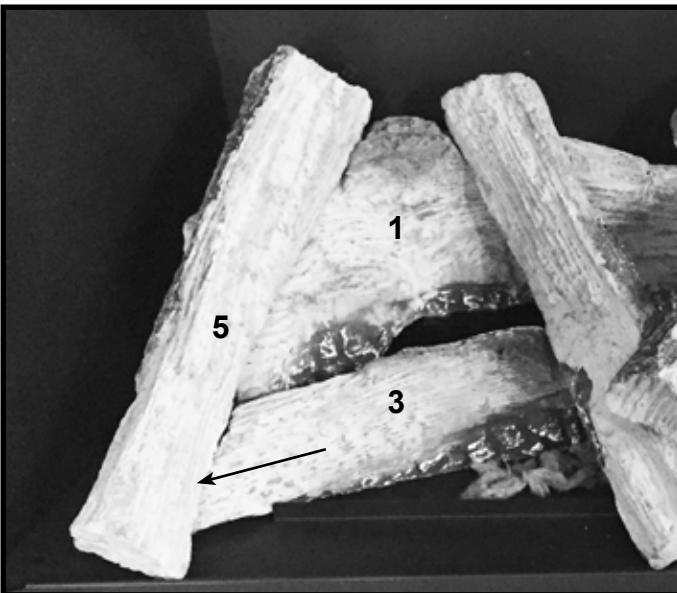

Figure 10. QUARTZ32: Install Top Left Log
8. **QUARTZ32 MODELS ONLY:** Locate and install Top Left Log (5). This Log does not have any “burn out” features painted on the log. The “left” end of this log will rest on the “left” side of the Left Front Base Log and the “right” end will rest on the “left” end of Left Rear Base Log. See Figure 10.